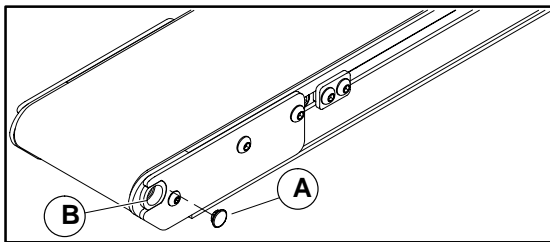
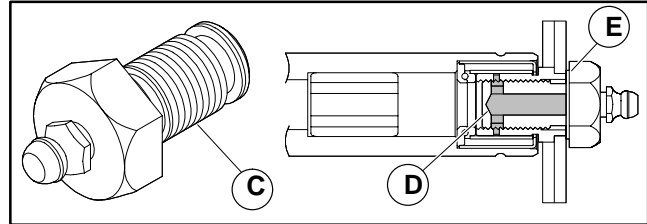

Figure 9
Figure 10
All non-driven positions have a plastic plug (A of Figure 9) installed into the ends of the pulley retaining sleeves (B). Use a small flat-bladed screwdriver to remove this plug.
1. Install Dornier greasing adapter part number 200046 (C of Figure 10).
2. Make sure the adapter shoulder (E) is seated against the conveyor tail plate. Proper seating assures alignment of the internal lubrication passages (D).
3. When lubrication is finished, the grease adapter (C) can be left in place or can be replaced with the plastic plug (A of Figure 9).